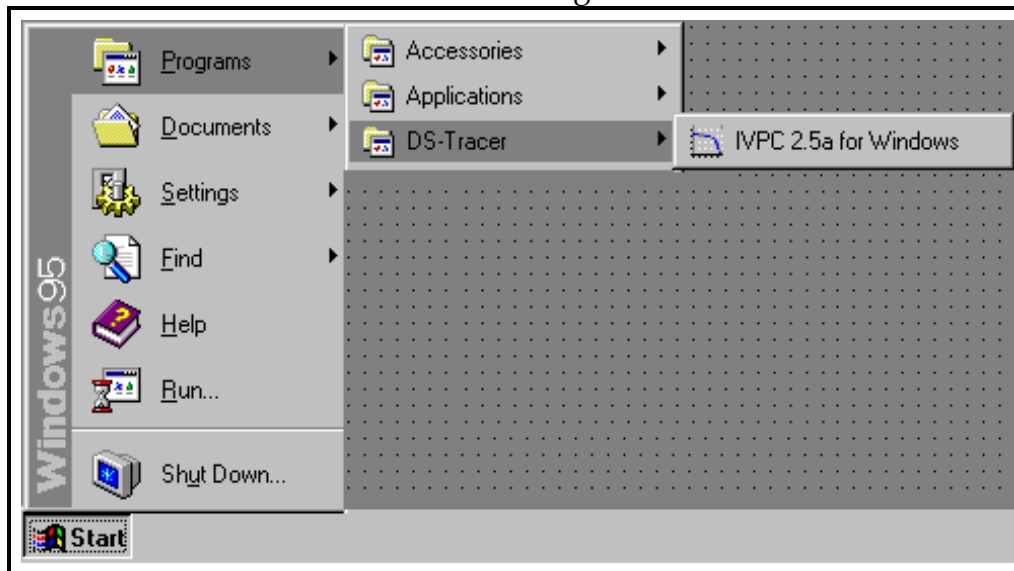

Figure 3. IVPC for Windows icon.
2. Activate IVPC by double clicking on the IVPC icon or by using the Start function of Windows® as shown in Figure 3.